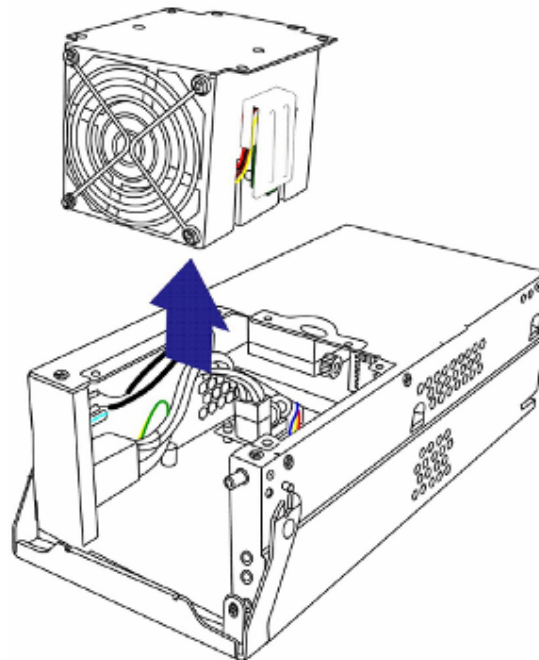

Figure 1-14: Cooling Module
Two cooling modules are implemented within the rear sections of PSU modules. (see **Figure 1-14**.) The cooling fans operate at two (2)